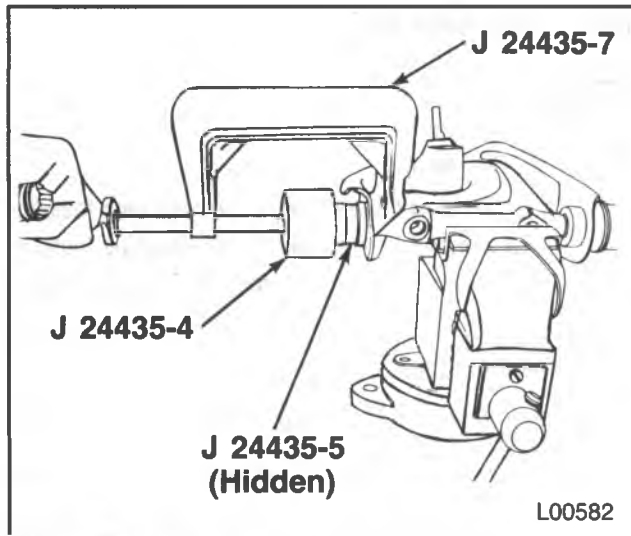

Figure 31 — Installing the Lower Control Arm Bushing (G20/2500 W/6.2L Diesel)
1. Bushings (46) and the pivot shaft (50) into the lower control arm (36).
- Use J 24435-4, J 24435-5 and J 24435-7 (figure 31).
- Tighten J 24435-7 until the bushing (26) fully seats.
- Slide the pivot shaft (50) into the lower control arm (36), then install the other bushing (46).
2. Lower control arm (36).
1. Bushings (26) and the pivot shaft (29) into the upper control arm (28).
- Slide the pivot shaft (29) into the upper control arm (28), then install the other bushing (26).